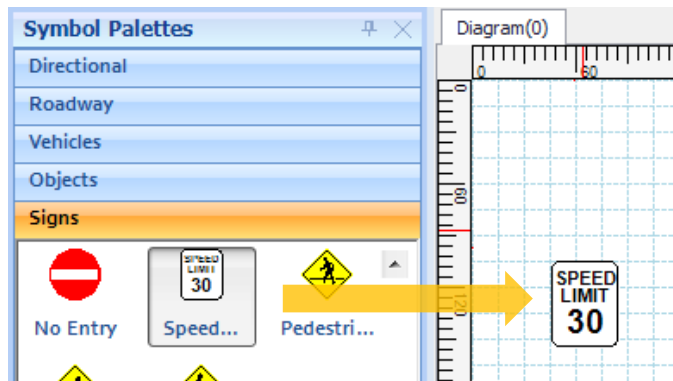

Figure 142. Dragging Symbol to Drawing Page
2. Drag the symbol to the drawing page, as shown in Figure 142.
1. Drag the symbol to the drawing page, as shown in Figure 142.